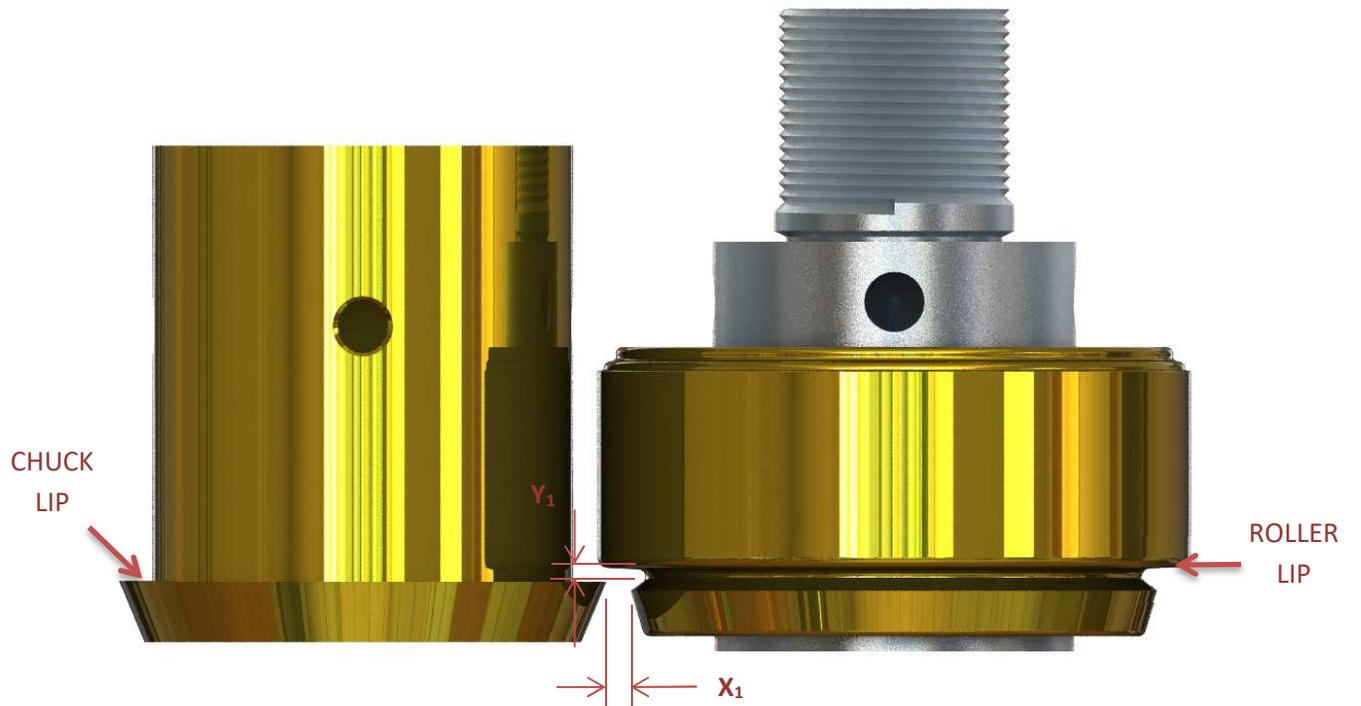

Figure 4. Roller & Chuck
- a. operation 1 & operation 2, clear above chuck lip (see Figure 4) to avoid chuck from crashing into, and damaging, the roll
- a. Adjust the stroke of the connected seaming cylinder Figure 9. Chuck and until it is 0.003"-0.005" away from the chuck (x1 on Figure 4).
- a. back off 1/8 turn (aprx .003" on Figure 4).
- a. Adjust the stroke of the connected seaming cylinder until it is 0.003"-0.005" away from the chuck (X₁ on Figure 4).
- a. back off 1/4 turn (aprx .009" - .015", Figure 4).